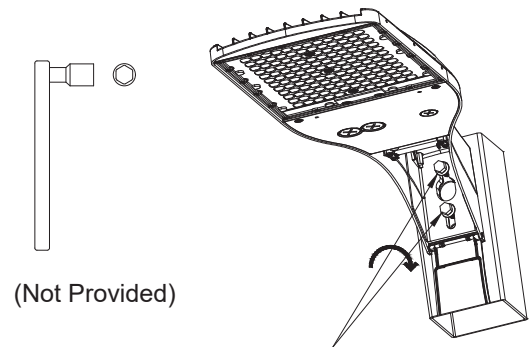

Fig 6
- 2.Fully tighten both 3/8" screws with the 3/8" socket wrench to fix the fixture to the pole.(Fig 6)